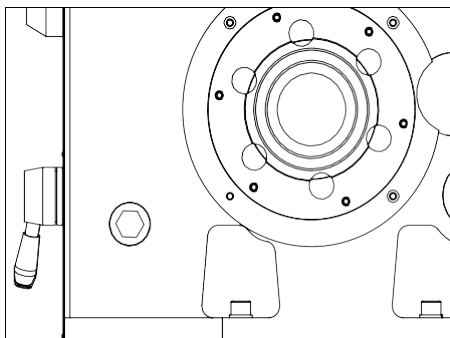

Figure 21. Oil pump sight glass.
- Rotate the red EMERGENCY stop switch knob clockwise until it pops out and the pump will turn on. Observe the oil pump tube sight glass (Figure 21). When oil flows out of the tube and against the sight glass, you can start the lathe.